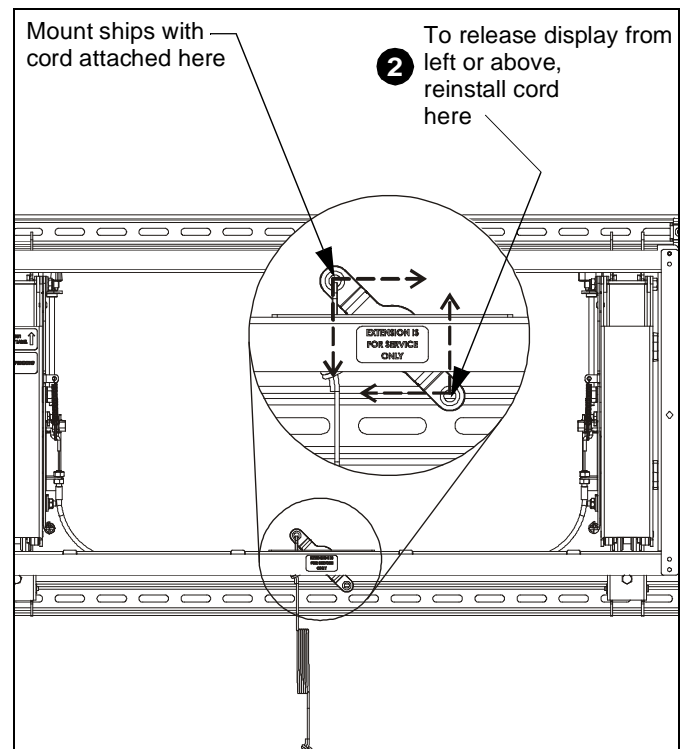

Figure 23
1. Unhook the pull cord from the mount. (See Figure 23)
2. Reinstall the pull cord in the opposite hole on the mount. (See Figure 23)